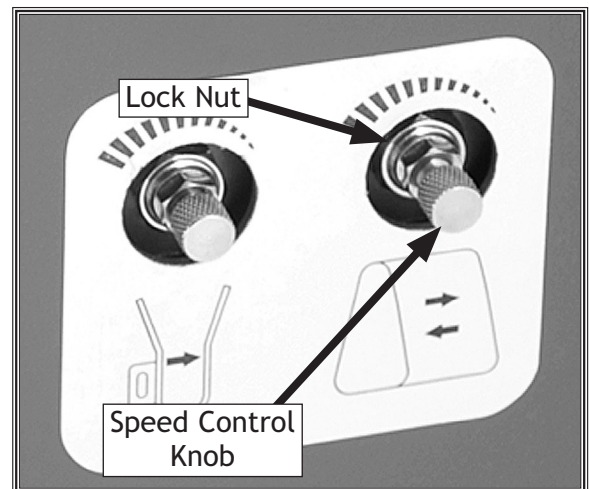

Figure 38. Speed control adjustment knob.
1. Loosen the lock nut on the speed control adjustment knob (**Figure 38**).